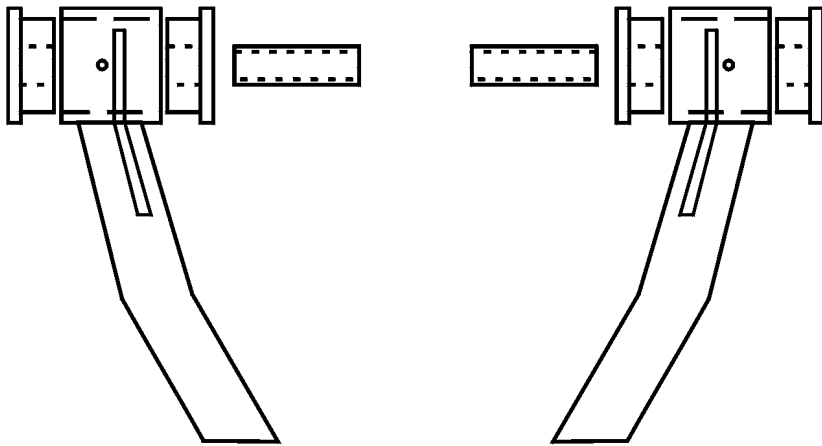

Figure 1
4. Take the UCA marked passenger and install the supplied grease fittings onto the UCA bushing ends. Using the supplied lube, lubricating all parts, press two bushing into each UCA end, followed by one sleeve (four bushings and two sleeves per UCA) as shown in figure 1.